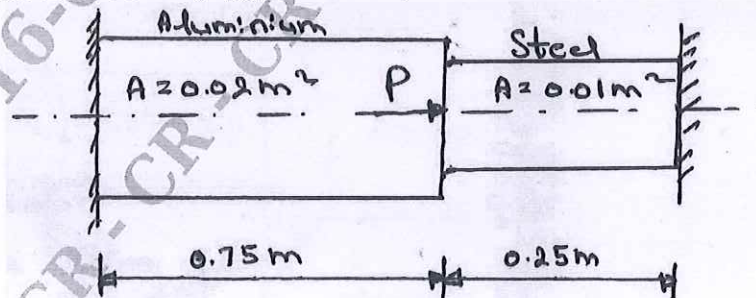

Fig.Q4(a)
- 4 a. Determine the nodal displacements and the stresses in each element in the bar shown in Fig.Q4(a). Take $E_{Al} = 70 \text{ GPa}$, $E_{Steel} = 210 \text{ GPa}$, $P = 12 \text{ kN}$.